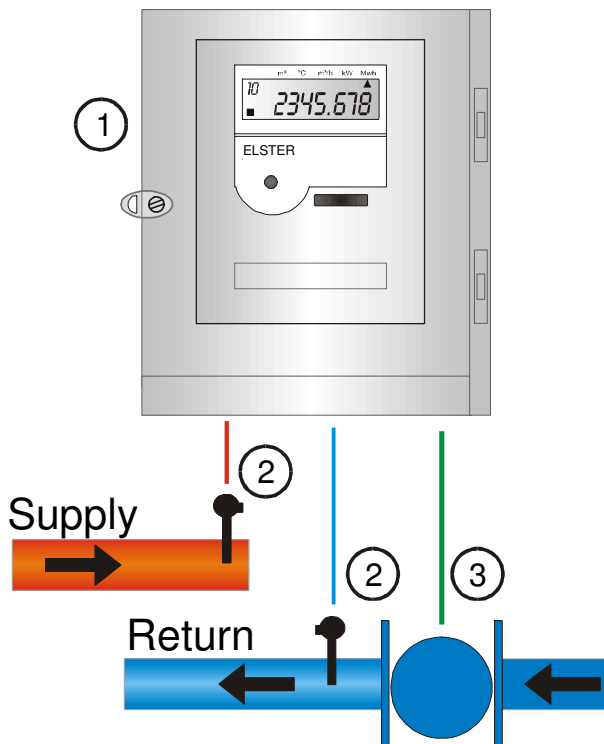

Fig. 1.1, Principle of energy measurement
**Recommended** flow sensor placing is in the return (cold) pipes, see also fig 1.1, 1.2 principle of energy measurement, as this side normally is the “cooler side” for the flow sensor.